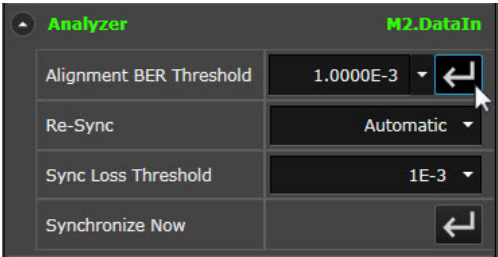

Figure 27 Alignment BER Threshold
- 15 Click on the **Alignment BER Threshold** button to synchronize and align the error analyzer as shown in Figure 27 on page -53.